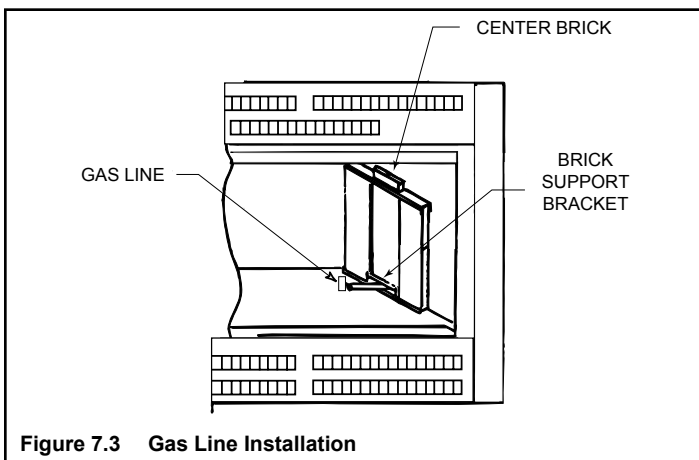

Figure 7.3 Gas Line Installation
- Slide center piece of firebrick up and place the support bracket under the brick as shown in Figure 7.3.